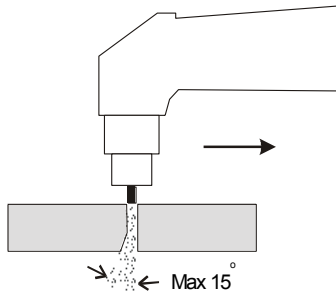

Fig. 8
1. The cutting speed is too high. Make sure the slope of the cutting arc does not exceed about 15 ° (see Figure 8).